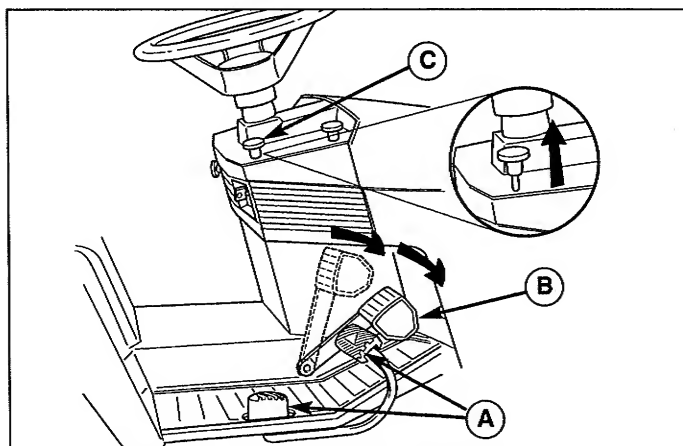

Figure 2. Engaging the Parking Brake
Applying the Parking Brake - See Figure 2. To lock the parking brake, release the ground speed pedals (A), fully depress the brake pedal (B), pull UP on the parking brake / cruise control knob (C), and then release brake pedal.
Releasing the Parking Brake - See Figure 2. To release the parking brake, fully depress the brake pedal (B) and push the parking brake / cruise control knob (C) DOWN.